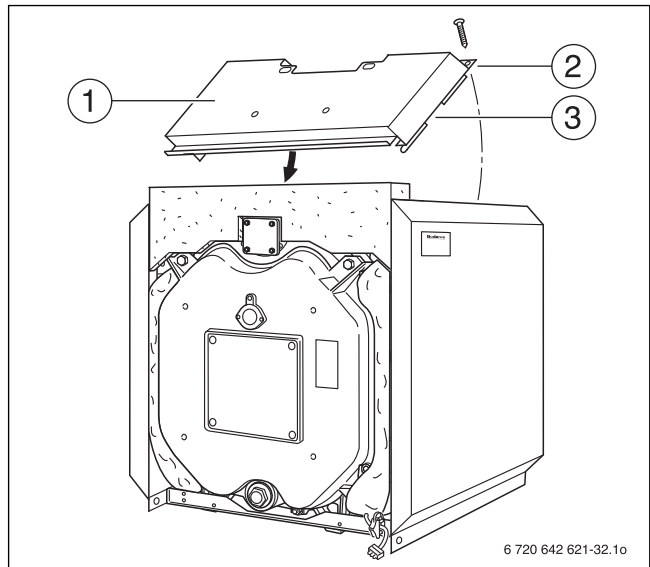

Fig. 38 Fitting the front cover
- ▶ Place front cover (Fig. 38, [1]) between the side panels so the cut-out (Fig. 38, [3]) fits over the tie bar.
- ▶ Screw the rear cover to the side panels using one self-tapping screw per panel (Fig. 38, [2]).